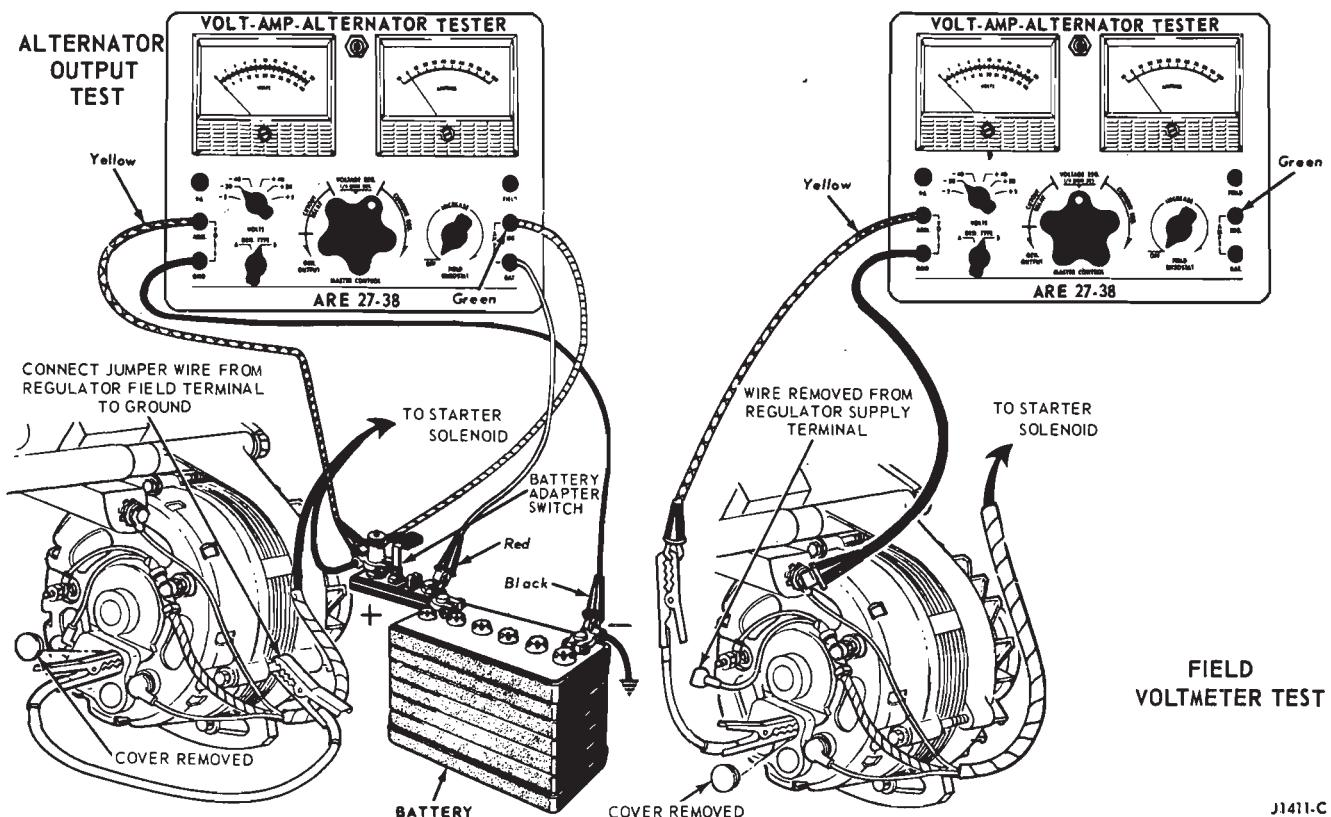

FIG. 8—Alternator Tests—With Integral Regulator
1. Check the alternator drive belt tension. Place the transmission in neutral or park and apply the parking brake. Make the tester connections as shown in Fig. 8, Alternator Output Test. Connect the jumper wire as shown. Be sure that it is securely clamped to the regulator field terminal.
2. Connect the ARE 27-38 tester, and make the tester knob adjustments as shown in Fig. 8, Field Voltmeter Test.